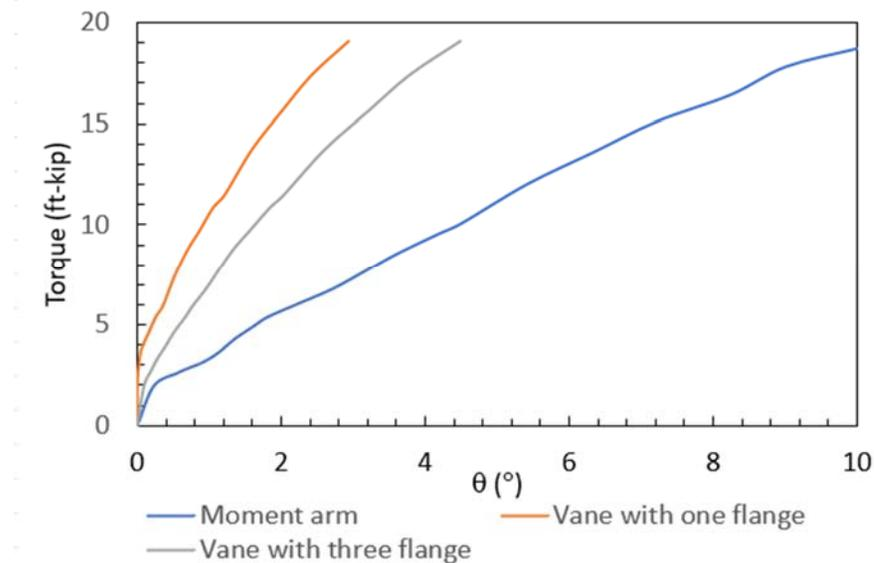

Figure 1. Angle of twist comparison between moment arm and CV flanges. Results for the CV36-36.
- In the torsion test it was found that the moment arm and the collar vane flanges displacements were not the same as the applied torque was increased. This is shown in Fig. 1. This slack is due to a non-homogeneous load transfer mechanism in the moment arm-pile-vane system.